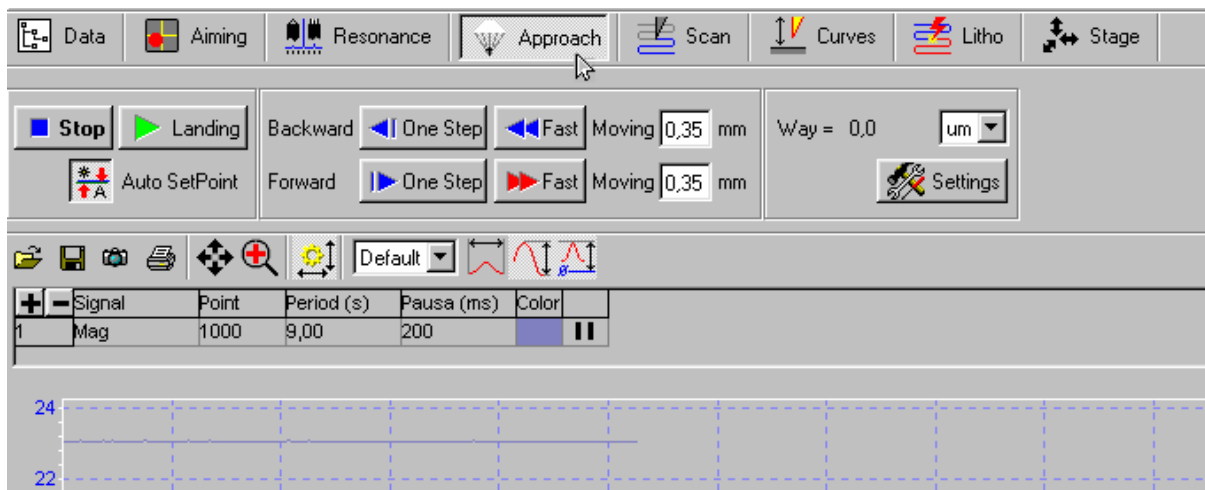

Fig. 4-18
1. Shift to **Approach** window under **Approach** bookmark in the operations sting (Fig. 4-18);